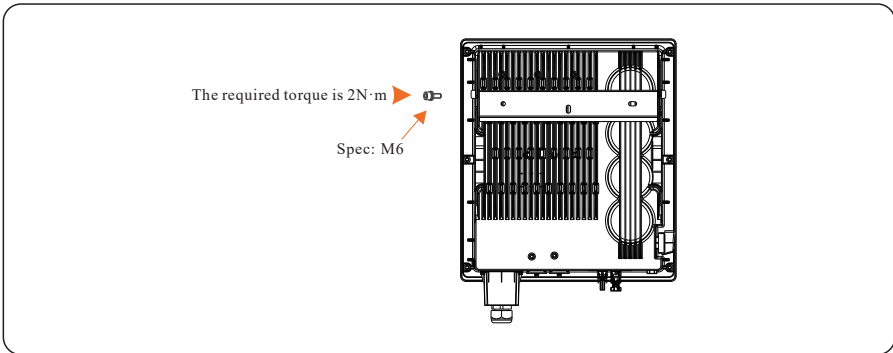

Figure 4.13 Securing the inverter
- Step 2** Mount the inverter on the rear panel and keep them aligned with each other, as shown in Figure 4.13.